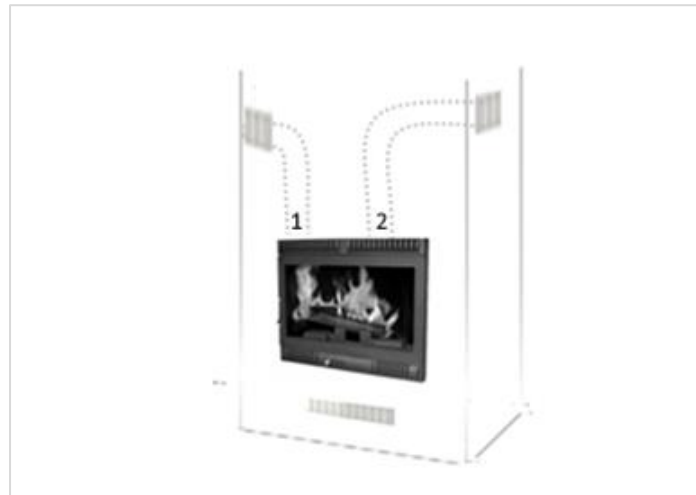

Figure 5
1. The device has two openings (see 1 and 2 in figure 5) at the top that allow the connection of a pipe for channeling hot air.